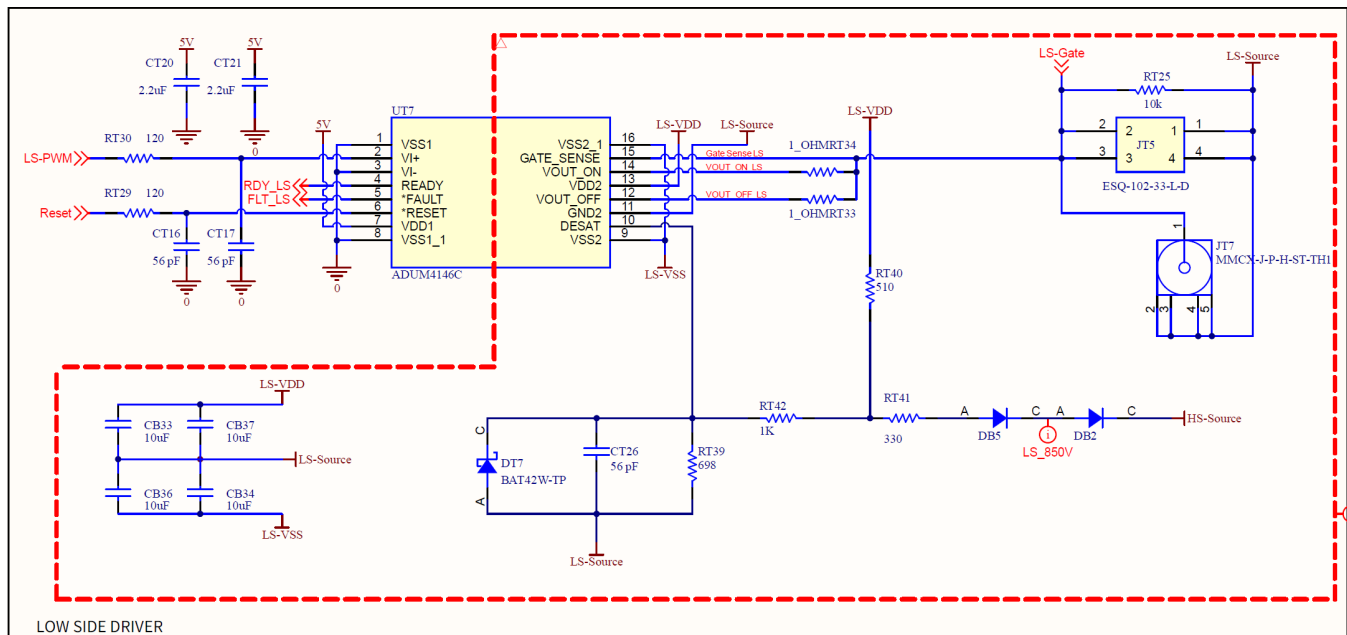
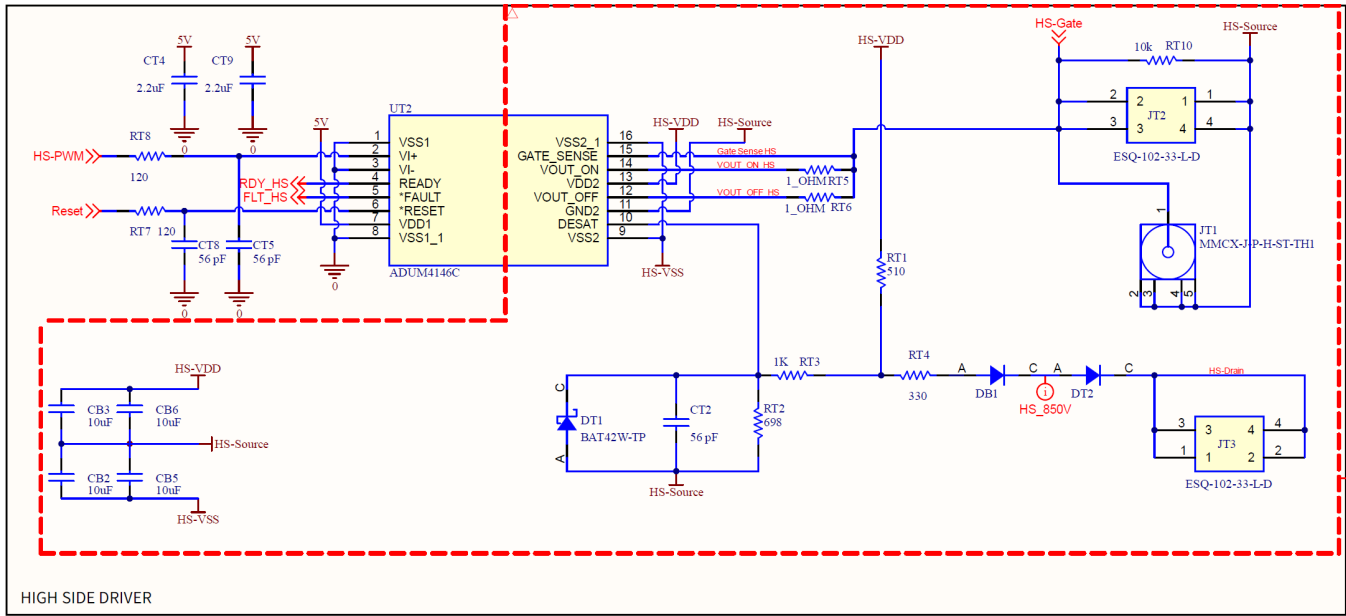
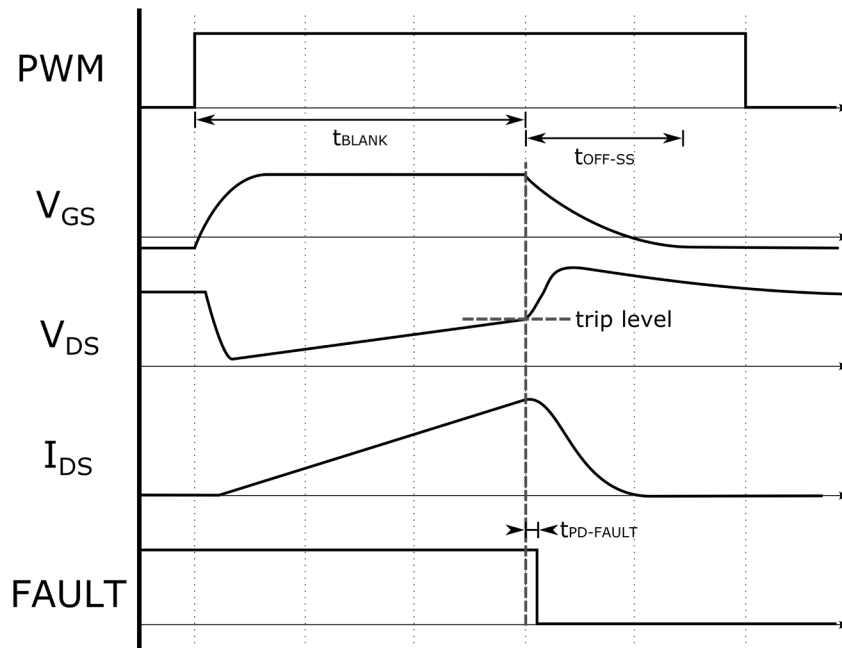
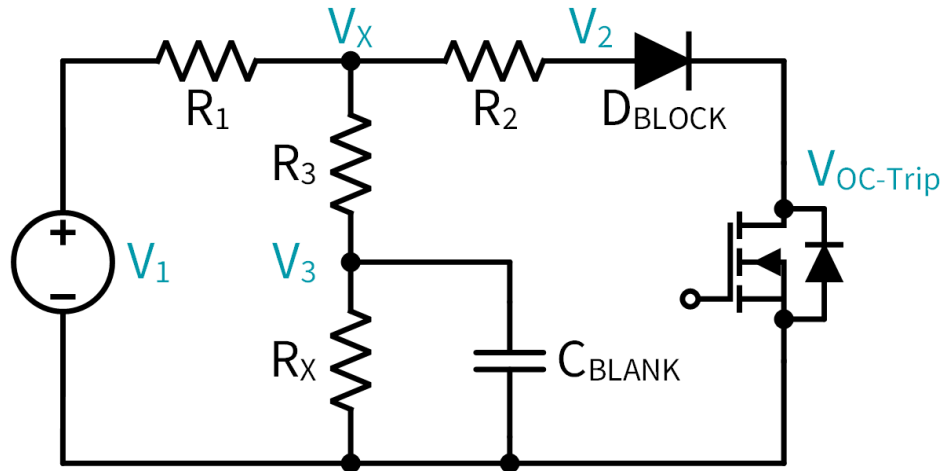

Figure 19: Low-side gate driver circuit with overcurrent protection
Figure 20: High-side gate driver circuit with overcurrent protection
Figure 21: Overcurrent fault timing diagram
Figure 22: Notional overcurrent fault circuit
An overcurrent (OC) fault is an indication of an overcurrent event in the SiC power module. The overcurrent protection circuit, shown in Figure 19 for the low-side and in Figure 20 for the high-side, measures the drain-to-source voltage (V_{DS}), and the fault will indicate if this voltage has risen above a level corresponding to the safe current limit. When a fault has occurred, the corresponding gate driver channel will be disabled, and the gate will be pulled down through a soft-shutdown resistance, R_{SS} . The drain-source limit can be configured through onboard resistors. The overcurrent fault is latched upon detection and must be cleared by the user with a high pulse of at least 500 ns on the *RESET* signal. The various timing and voltage trip levels presented in Table 2 and Section 4.4.4 are defined notionally in the timing diagram shown in Figure 21.
The OC fault detection circuit, shown in Figure 19 and Figure 20, measures the on-state V_{DS} across each switch position and triggers a fault condition if the voltage rises above the predefined set level. The circuit is simplified into the notional diagram shown in Figure 22. Referring to this figure, the intermediary voltages V_2 and V_x and the trip resistor, R_x , can be calculated using the following equations:
- V_2 : intermediate voltage shown in Figure 22 [V]
- V_x : intermediate voltage shown in Figure 22 [V]